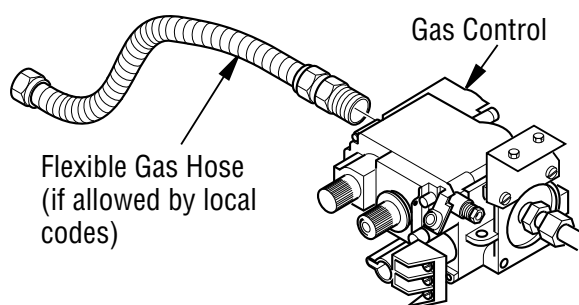

Figure 11 - Attaching Flexible Gas Hose to Heater Gas Regulator
1. Apply pipe joint sealant lightly to male threads of gas fitting (provided). Connect approved flexible gas hose to inlet side of gas control (see **Figure 11**).